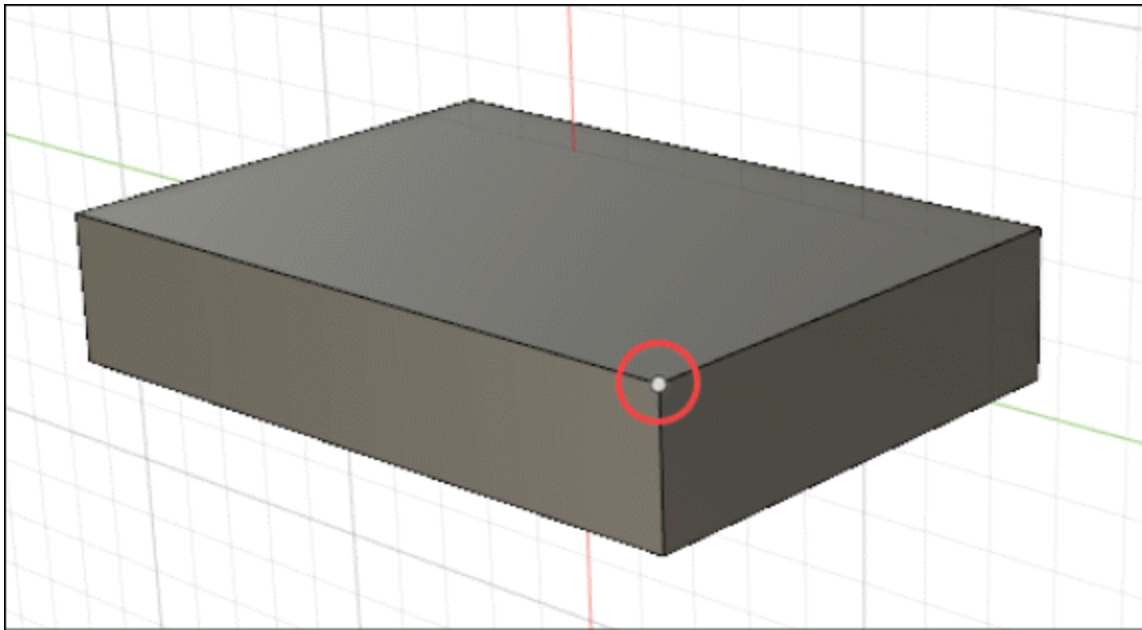

Figure-139. Point at edge and plane created
- On selecting the plane, preview of point will be displayed. Click on the **OK** button from the dialog box to create the point; refer to Figure-139.